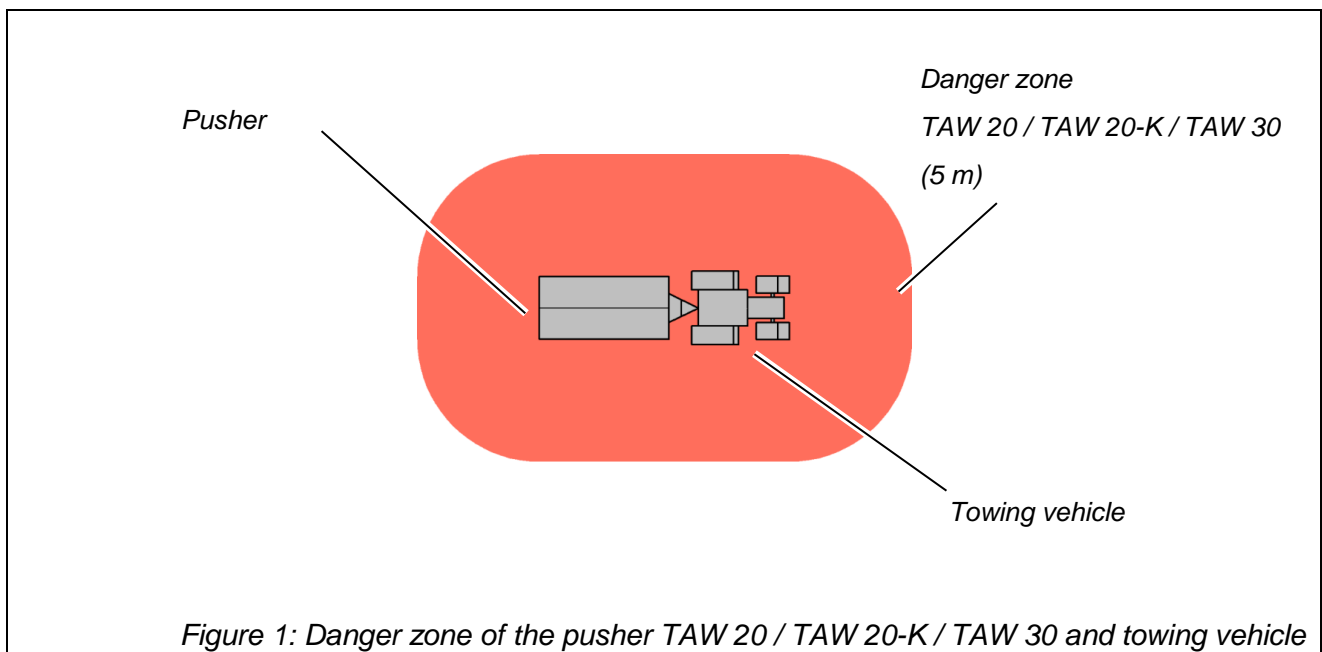

Figure 1: Danger zone of the pusher TAW 20 / TAW 20-K / TAW 30 and towing vehicle
- No-one should be in the danger zone when the plate is being pushed (see Figure 1, Page 17).
The danger zone of the pusher TAW 20 / TAW 20-K TAW 30 and the towing vehicle (see Figure 1).